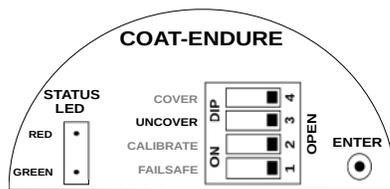

Figure 12: Saving Uncover Delay
4. Uncover Delay is entered, but not saved. To save and test the Uncover Delay, set the UNCOVER switch back to OPEN position as shown in figure 12. The STATUS LED will come back to its original position.